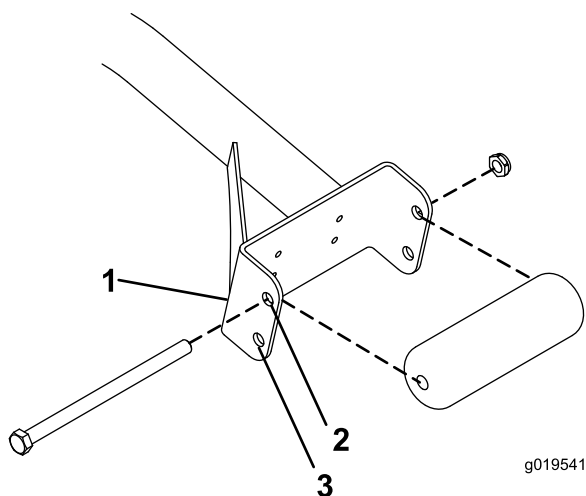

Figure 3
- If you are using 27-inch cutting units, install the rollers in the upper mounting holes of the support assembly channels (Figure 3).
- If you are using 32-inch cutting units, install the rollers in the lower mounting holes of the support assembly channels (Figure 3).